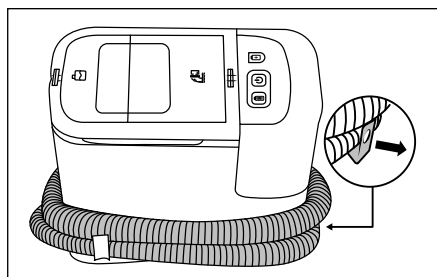

Fig. 10
- ◆ Pull the hose holder 15 out of the appliance. Place the spray/suction hose 19 around the appliance using the hose holders 15/16 (see Fig. 10).